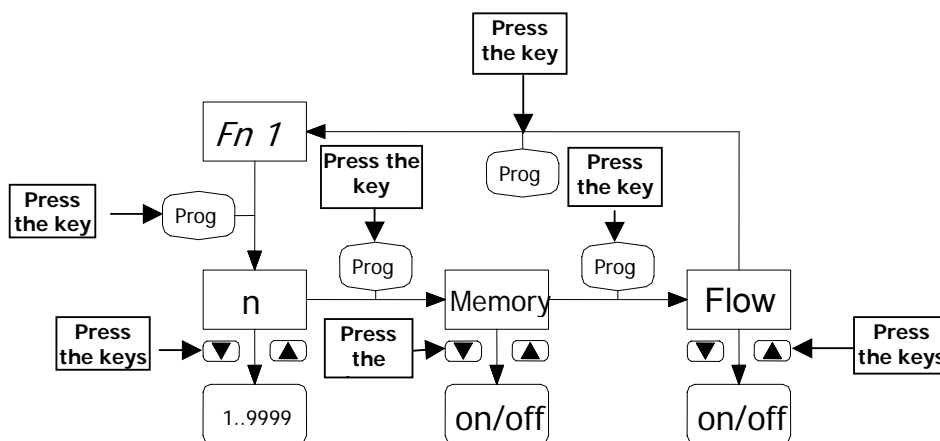

Fig. 24: n:1 division mode menu
– **Selecting Impulses (See Fig. 24)**
– **Memory Function (see Fig. 24)**
– **Flow Control Function (see Fig. 24)**